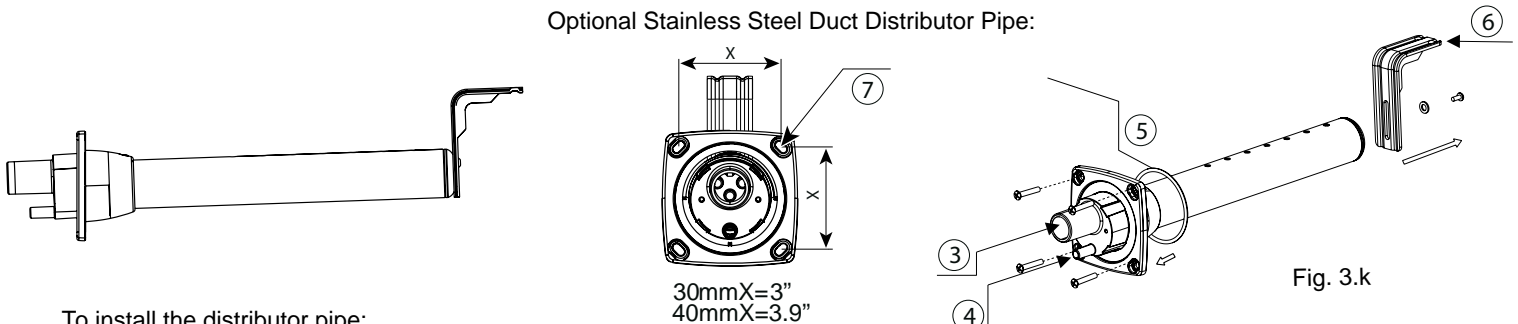

Fig. 3.k
2. Apply silicone sealant to the mounting plate and insert the pipe through the hole and secure it with sheet metal screws. See Fig.3.k